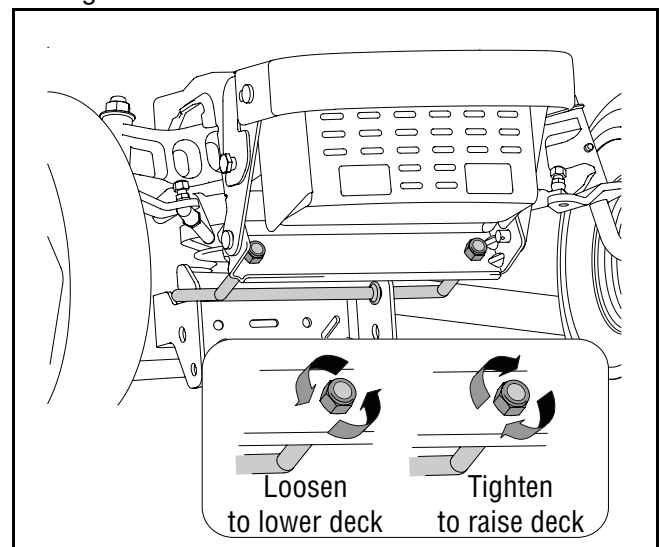

Figure 13
5. From the front of the tractor, loosen the outermost hex lock nut on the end of the deck hanger rod. See Figure 13.
6. Tighten the inner hex nut front against the front hanger bracket to raise the front of the deck; loosen the hex nut to lower the front of the deck. See Figure 13.